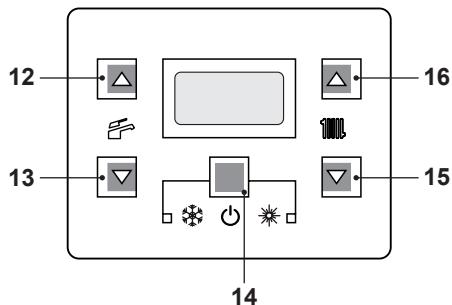

Fig. 2.5
- Press the key 14 for 2 seconds until both  and  symbols appear on the display Fig. 2.5.